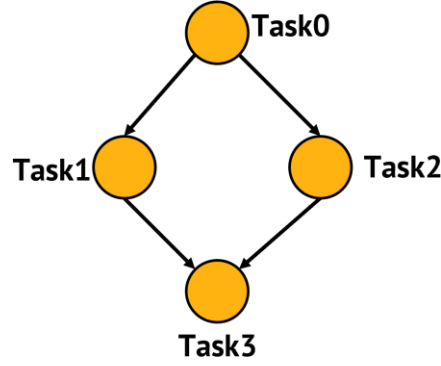
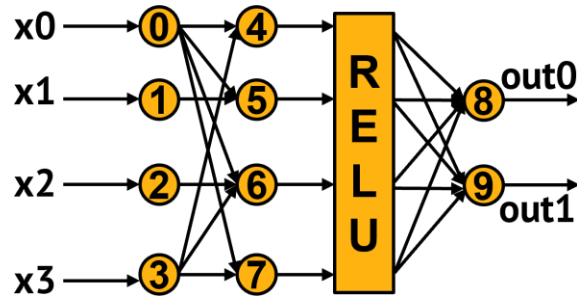

Figure 1: Structure of the Graph
Figure 2: Structure of the Neural Network with fully connected layers. The figure does not show all the connections for brevity.
Graph Neural Network (GNN) is widely used for classification problems. In simple words, GNN consists of nodes. Each node implements a neural network. The nodes are connected with directed edges. The graph represents a wireless application comprised of 4 tasks in this project. Figure 1 shows the diagram.
The neural network embedded in each node in Figure 1 has 4 inputs, 4 neurons in the hidden layer, and 2 outputs (each corresponding to a core), as shown in Figure 2. The neural network consists of multiply and accumulate operations as well as ReLu operations. For example, the output of neuron 4 (y_4) is computed as $y_4 = \sum_{i=0}^3 x_i \times w_{i4}$, where w_{ij} denotes the weight for the link between neuron i and neuron j . The outputs of layer-1 operation go through ReLu operation, where $ReLu(x) = \max(0, x)$.
The objective of MS-1 is to implement the inference of the neural network embedded in each node (Figure 2) using HDL (Verilog/System Verilog). Assume that all inputs are 5 bits and output values are 17 bits. Also, assume all inputs and the weights are signed. The most
- **out0, out1** are the outputs as shown in Figure 2.
Graph Neural Network consists of aggregation and combination operations. The operations take place for each node of the GNN. First, for each node, the features of that particular node and the neighboring nodes are aggregated. Let us assume f_i^k denotes the features for Node- k (Task- k in Figure 1). In our case, $i = 0,1,2,3$ (four features) and $k = 0,1,2,3$ (four nodes/tasks). Node-0 is connected with Node-1 and Node-2. Therefore, the aggregated feature for Node-0 is $F_i^0 = f_i^0 + f_i^1 + f_i^2$. F_i^k denotes the aggregated feature at Node- k .